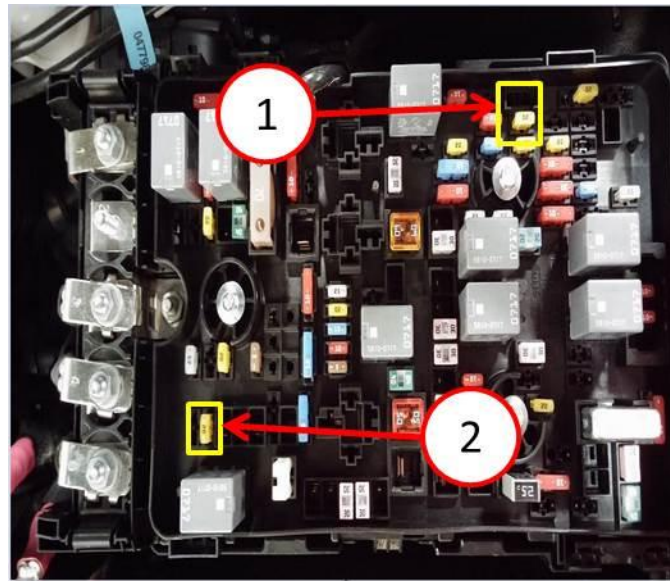

Fig. 1 Module Fuse Locations
- b. Pull fuse F10 (PTU 4WD, 20 amp) in the PDC (Power Distribution Center) (Fig. 1).
- b. Pull fuse F76 (RDM 4WD, 20 amp) in the PDC (Power Distribution Center) (Fig. 1).